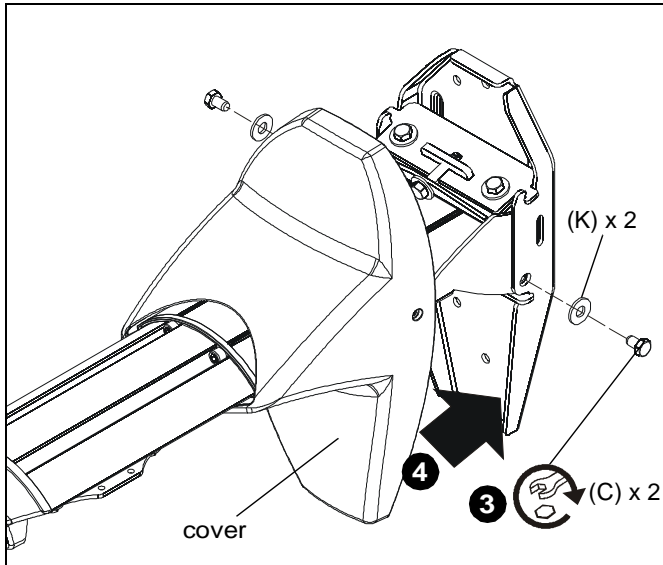

Figure 11
3. Install two 5/16-18 x 1/2" hex head cap screws (C) through two 5/16" washers (K) and into holes on mounting bracket and projector mount. (See Figure 11)
4. Slide outer cover of mount (A) back against mounting bracket. (See Figure 11)